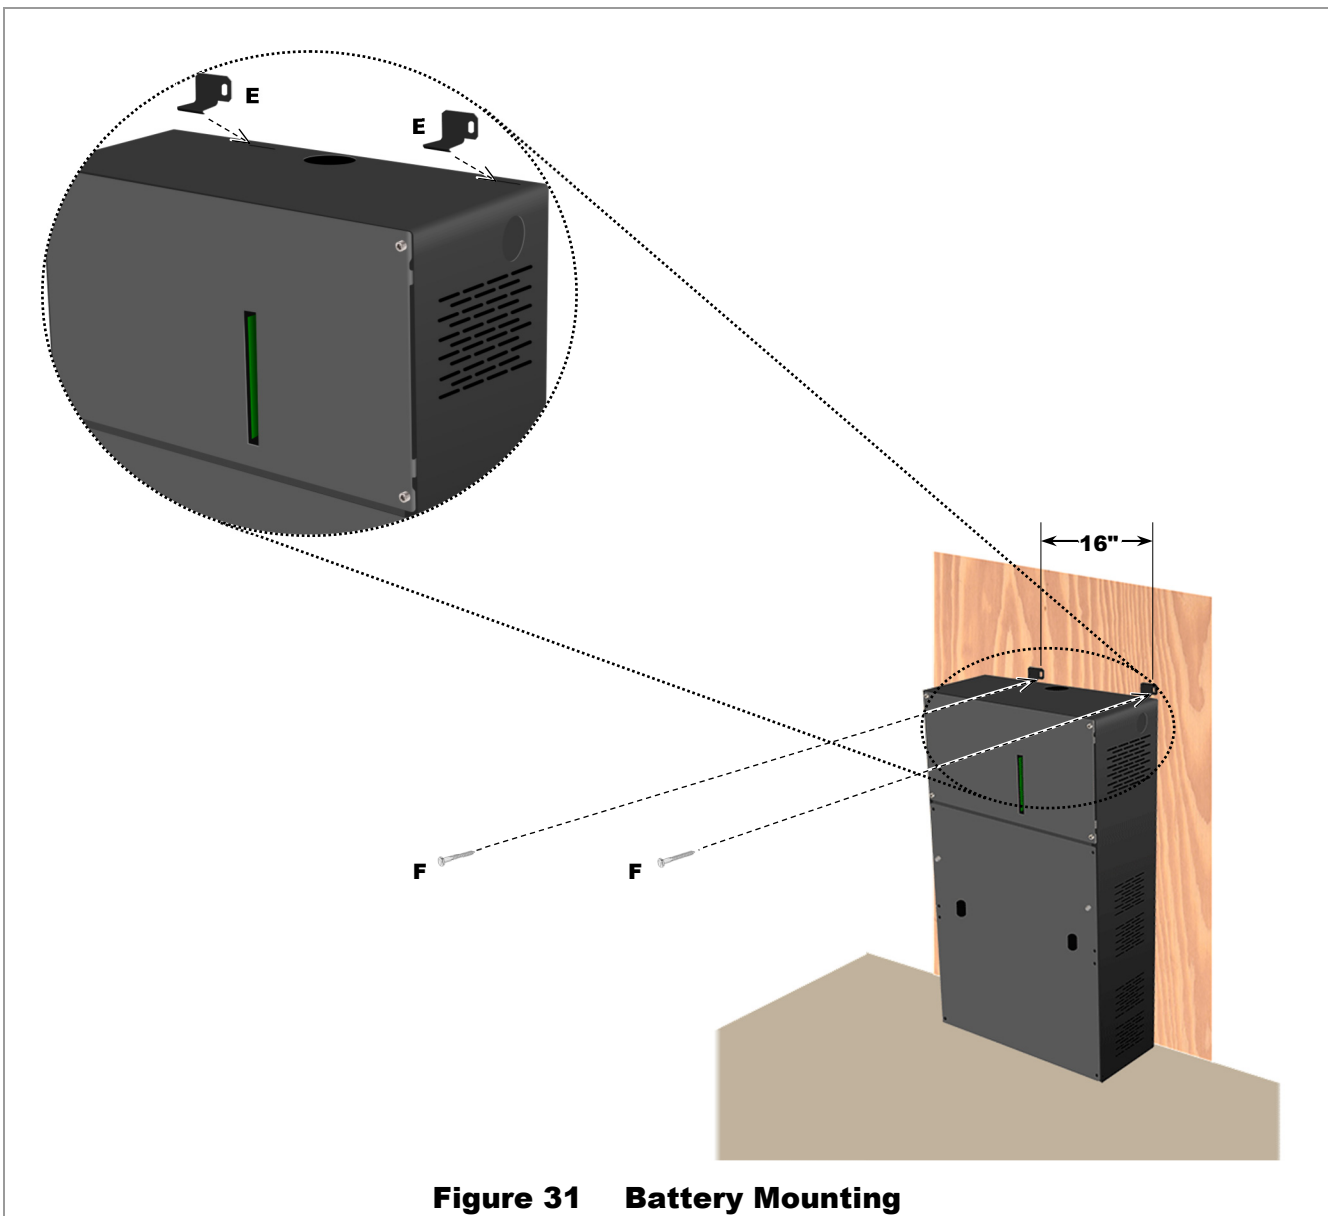

Figure 31 Battery Mounting
NOTE: If the wall structure does not have studs with 16" spacing, the mounting surface should be reinforced with attached plywood or similar material as shown in Figure 31.
- Insert the brackets **E** into the top slots on the battery as shown in the Figure 31 inset. These brackets will sit loosely until secured in the next step.